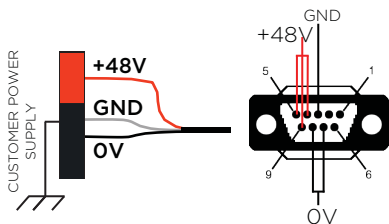

Figure 2
2. Make a power cable with a DB9 female connector based on the pin assignments shown below. **Make sure that the GND (White) and 0V (Black) are tied to the Chassis Ground at the power supply end as shown in Figure 2.**